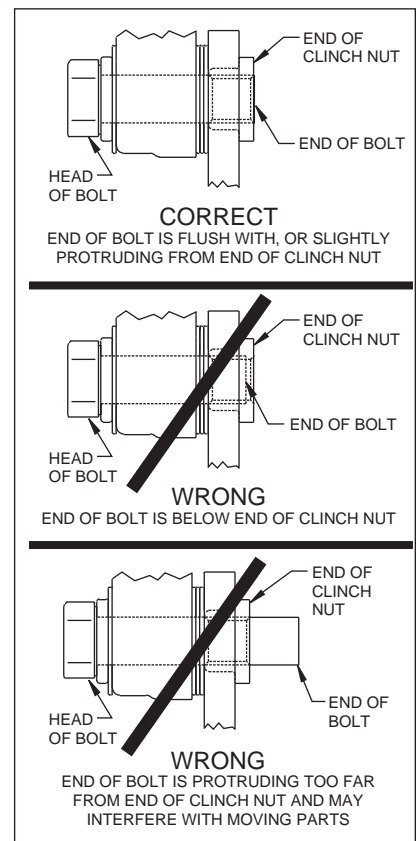

Figure 5. Clinch Nut Engagement Diagram
- NOTE:** Please reference the caution statement at the beginning of the assembly instructions. Mount the caliper (5) onto the caliper mounting bracket (1) using two bolts (11) and two washers (12). View the rotor (6) through the top of the caliper (5). The rotor (6) should be aligned in the center of the caliper (5). If not, loosen the two bolts (11) and adjust the caliper (5) by using 0.035 inch thick shim washers (10). The shim washers (10) should be placed between the caliper (5) and the caliper mounting bracket (1). Finger tighten and recheck alignment. **NOTE:** The end of the bolt must be flush with or slightly protruding from the head of the clinch nut. See Figure 5. Place spare shims (10) between washer and caliper mounting ear to achieve the proper mounting fastener configuration. Add as many shim washers (10) as necessary to achieve the correct alignment. Always use the same amount of shims on both the top and bottom caliper mounting bolts (11). Loosen the two bolts (11) and apply red *Loctite*® 271 to bolt threads (11) and torque to 40 ft-lb. Caliper mount bolts may be safety wired for additional security.
- Install the disc brake pads (13) and secure using cotter pin (14). Repeat this procedure for the other wheel.